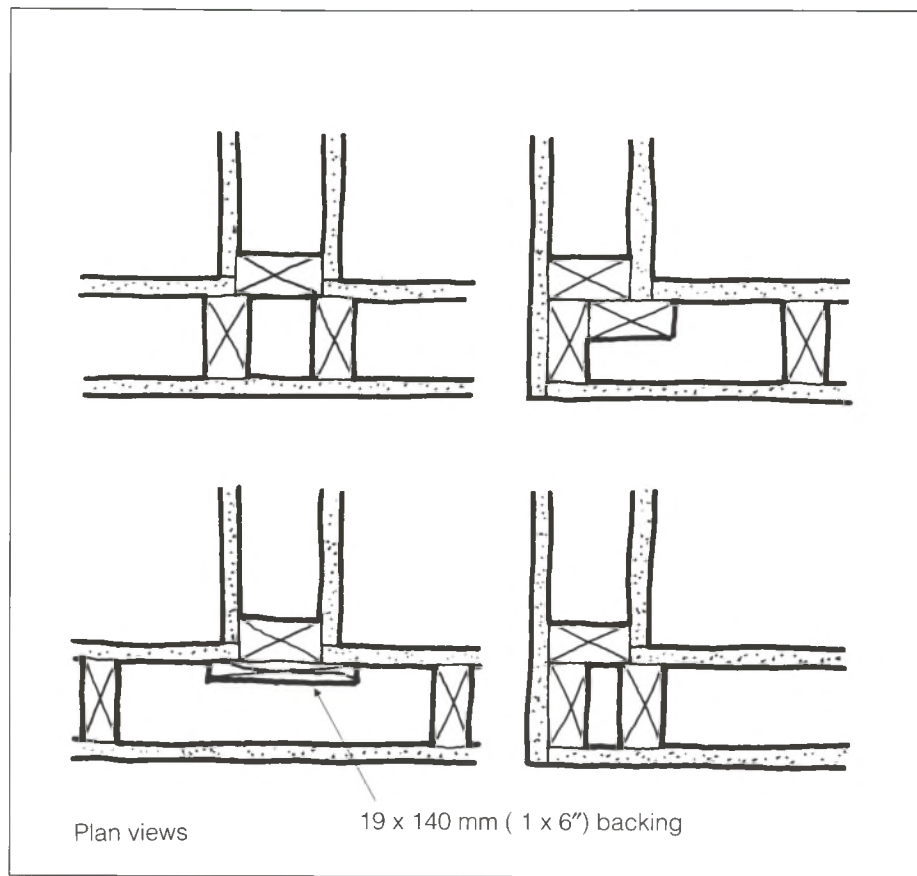

Fig. 17. Four alternatives for framing interior corners
- Avoid single-stud corners unless drywall clips are used. Provide adequate nailing surfaces, especially at interior corners (*fig. 17*).